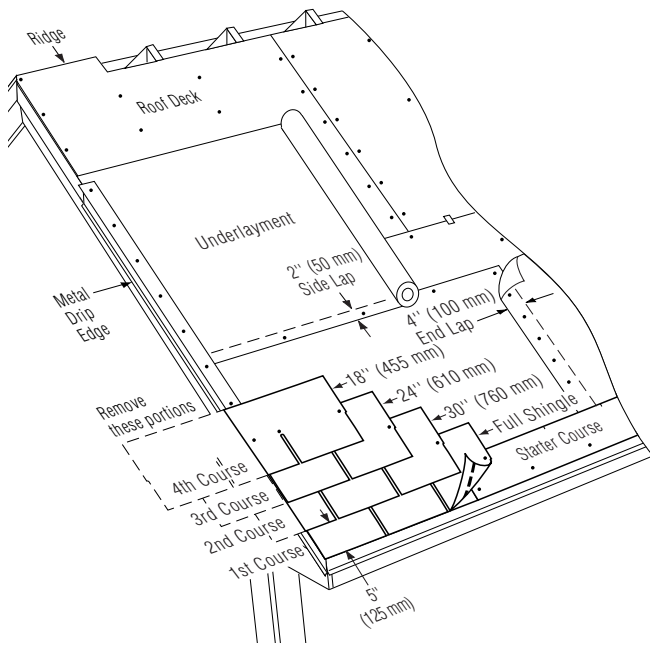

Figure 13-7: Applying the first 4 courses on a standard slope.
1ST COURSE: Apply a full shingle at the lower left corner of the roof. Make the tabs flush with the starter-course shingle at the eaves and rake (Figure 13-7).
1. Start the second course by first cutting 6" off the left end of a full shingle, then installing the 30" piece over the first course. Leave 5" of the first course exposed, and make the left edge flush with the first-course shingle at the rake (Figure 13-7).